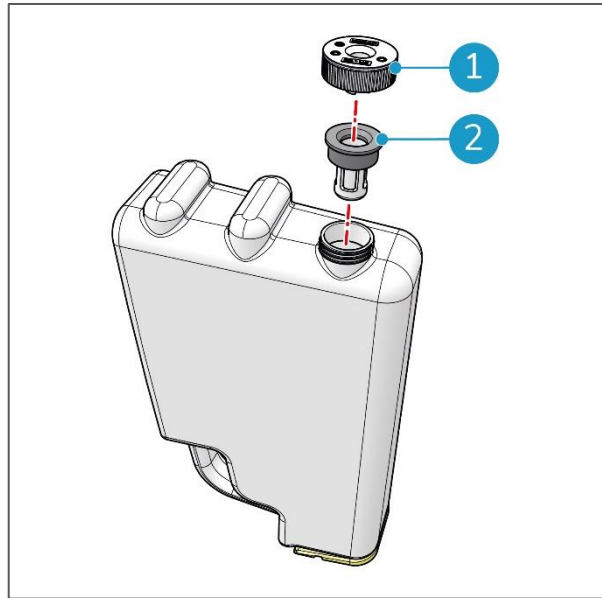

Figure 54
5. Unscrew the white cap (Figure 54, pos 1), it holds the detergent filter (Figure 54, pos 2) in place.
7. Place the filter in the cap (Figure 54).
8. Screw the cap into the bottom of the detergent tank (Figure 54) and make sure it seals tight.